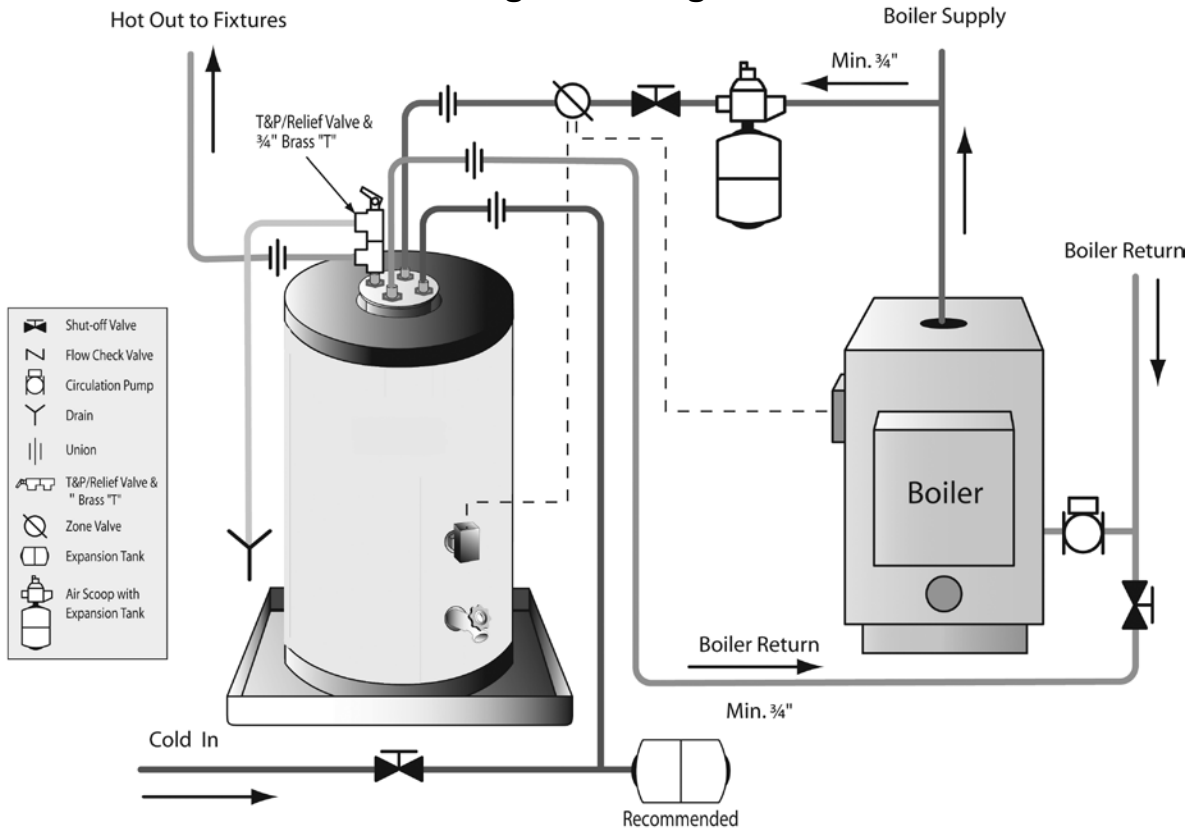

Figure 1: General Configuration
- The Alliance SL water heater may operate as a separate heating zone using either the heating system circulator and an appropriate zone valve, or a separate circulator dedicated for water heating. (**See Figure 1 & 2**).
(**See Figures 1 & 2**).
- T&P installed as shown in Figures 1, 2 and 3.
E. WATER SUPPLY CONNECTIONS (See Figure 1, 2 & 3).
See Figure 1 & 2 and separate TPI control wiring diagrams.